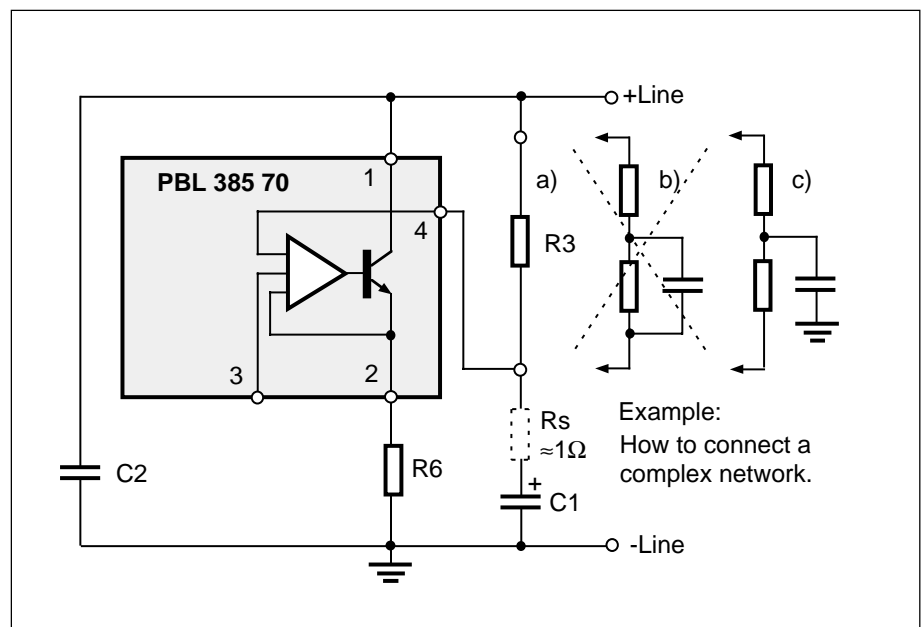

Figure 6. AC-impedance
1. Set the circuit impedance to the line, either 600Ω or complex. (R3 and C1). C1 should be big enough to give low impedance compared with R3 in the telephone speech frequency band. Too large C1 will make the start-up slow. See fig. 6.
In many specifications the impedance towards the line is specified as a complex network. See fig. 6. In case a). the error signal entering pin 4 is set by the ratio $\approx R_s / R_{19}$ (909Ω), where in case b). the ratio at high frequencies will be $R_s / 220\Omega$ because the 820Ω resistor is bypassed by a capacitor. To help up this situation the complex network capacitor is connected directly to ground (-line), case c). making the ratio $R_s / 220\Omega + 820\Omega$ and thus lessening the error signal. Conclusion: Connect like in case c) when complex impedance is specified.